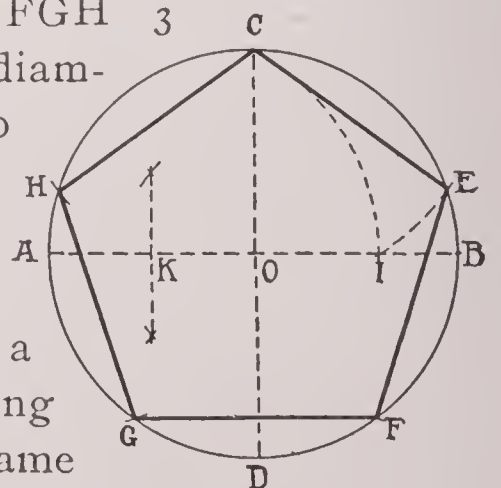

Fig. 19
19. To inscribe a pentagon in a given circle (Fig. 19):